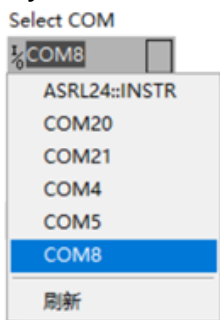
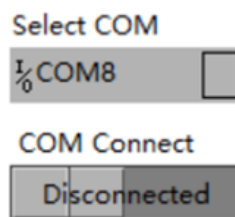
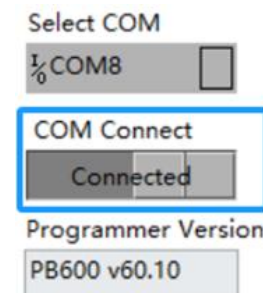

Figure 5.2.3 Select COM
Figure 5.2.4 COM Connect
Figure 5.2.5 Connected state
- Click the menu below "Select COM" to select the corresponding port number for the programmer (Figure 5.2.3). Click the "disconnected" button below the "COM Connect" to establish a communication connection between the programmer and the computer (Figure 5.2.4). After establishing communication between the programmer and the computer correctly, the programmer will return the current firmware version number and display it in the box corresponding to "Programmer Version" below (Figure 5.2.5).